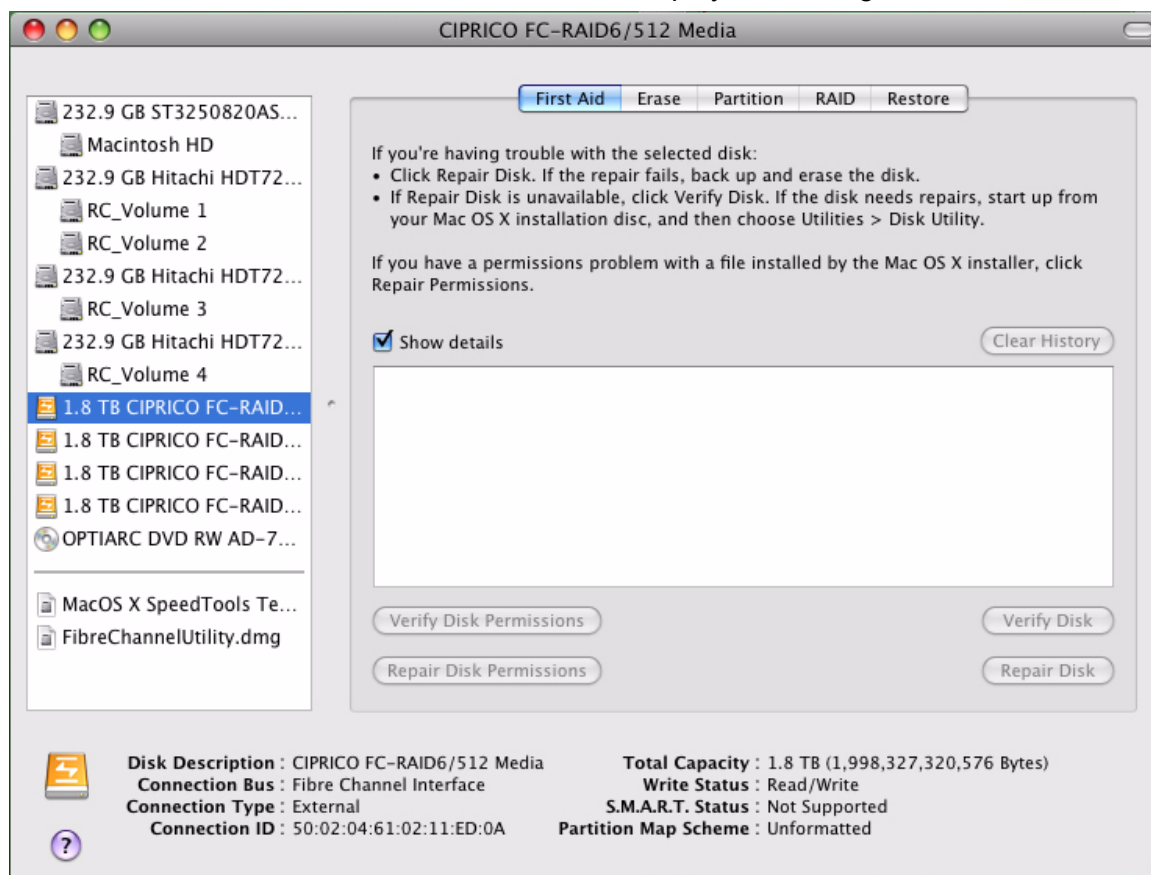

FIGURE 6-3. The Apple Disk Utility Screen, Showing the Text After the Disk Icon is Clicked.
4. Click on the upper CIPRICO FC-RAID icon. The screen changes, with the text of the “First Aid” tab displayed. See Figure 6-3.